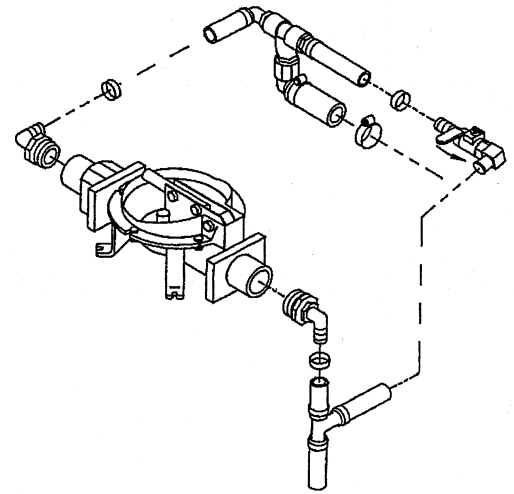

FIGURE 1
4. To flush aircraft toilet, the three-way ball valve on the fill pump must have its handle toward the hand pump as shown in **Figure 1**. Follow aircraft manufacturer's requirements for flushing. Six strokes of fill pump will deliver one gallon of fluid.